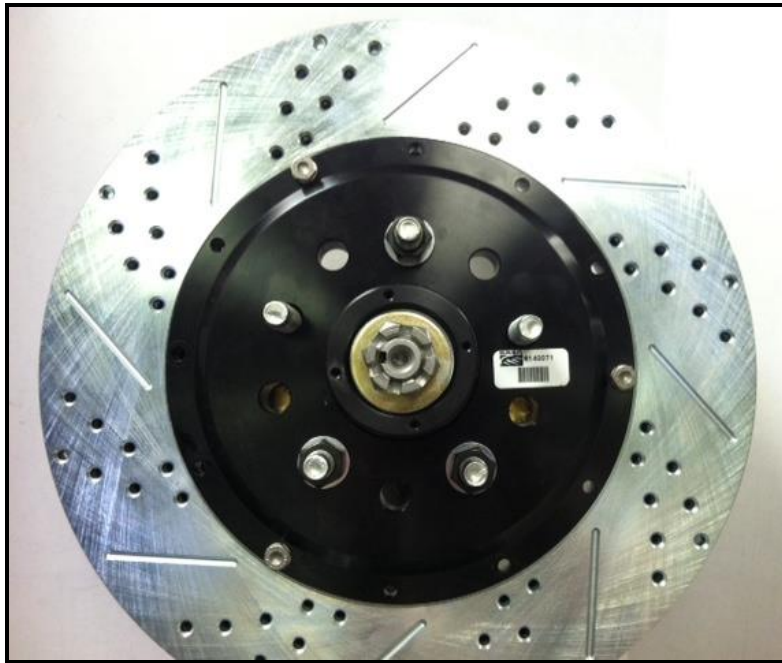

Figure 7: Passenger side rotor installed with three lug nuts and washers
8. Install the correct side rotor and secure with three lug nuts and washers to prevent scratching the rotor hat. See Figure 7 for reference.